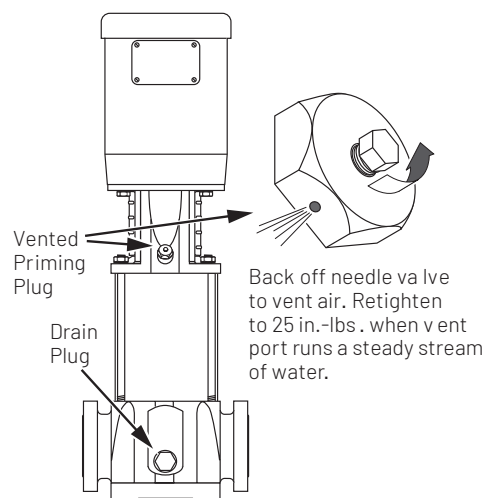

Figure 5 - Priming and Drain Plugs
1. Close the discharge isolating valve and loosen the needle valve located in the assembly in the pump head (Figure 5). Do not remove the needle valve.